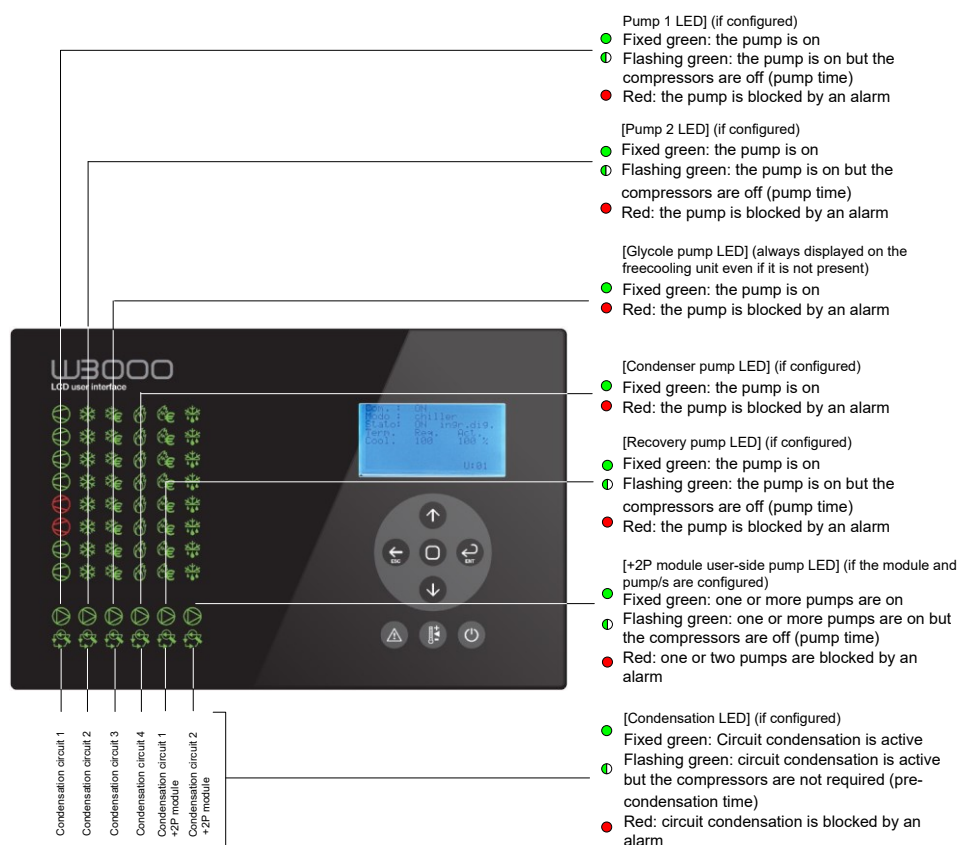

Figure 8.3
- The example in figure 8.3 shows the case of an 8-compressor unit. The lighting of the compressor lines depends on the number of compressors present.